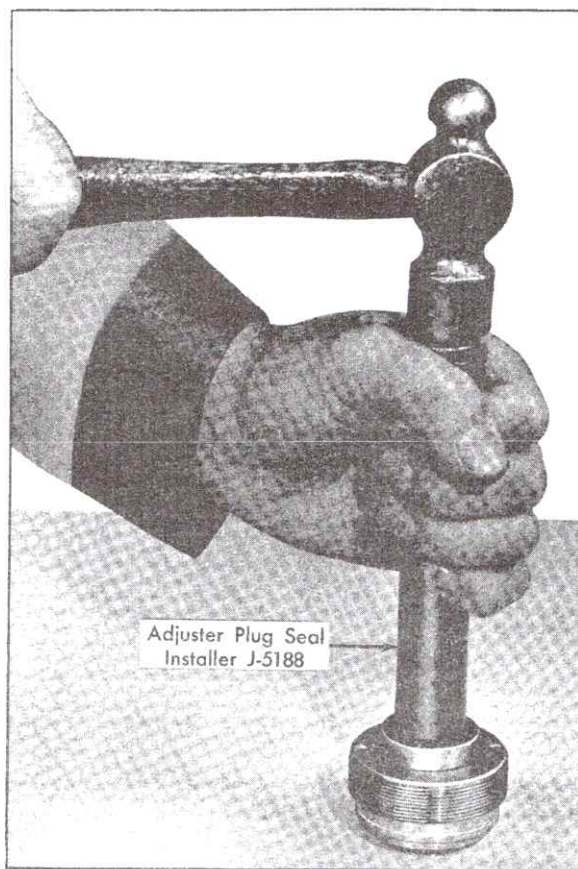

Fig. 9-30 Installing Oil Seal
2. Lubricate new stub shaft oil seal with power steering fluid and, using Adapter Plug Seal Installer, J-5188, Fig. 9-30, install seal far enough to provide clearance for dust seal and retaining ring.